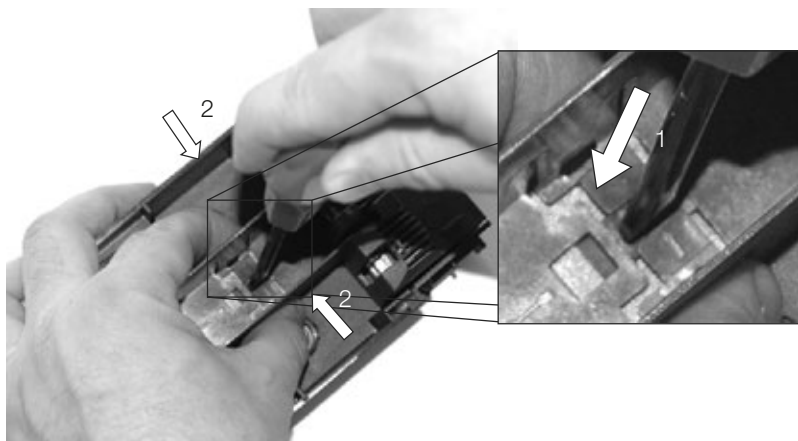

Figure 5
- Using a screwdriver press locking of catches of the shield and simultaneously squeeze catches of the shield for terminals making them released (Figure 5);